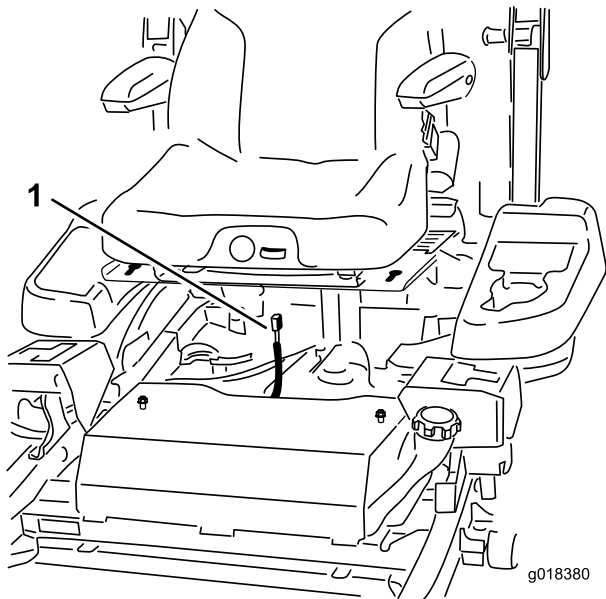

Figure 64
9. Unplug the harness connector from the seat switch located under the seat (Figure 64).